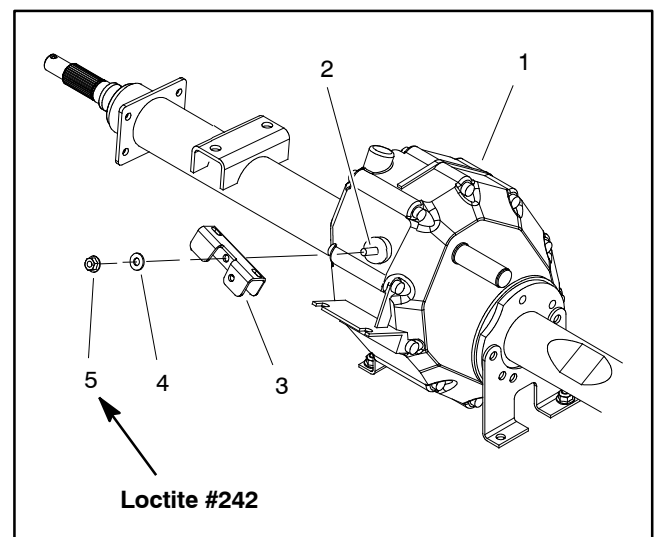

Figure 17
- B. Remove lock nut and flat washer that secures the select lever to the transaxle selector shaft (Fig. 17).